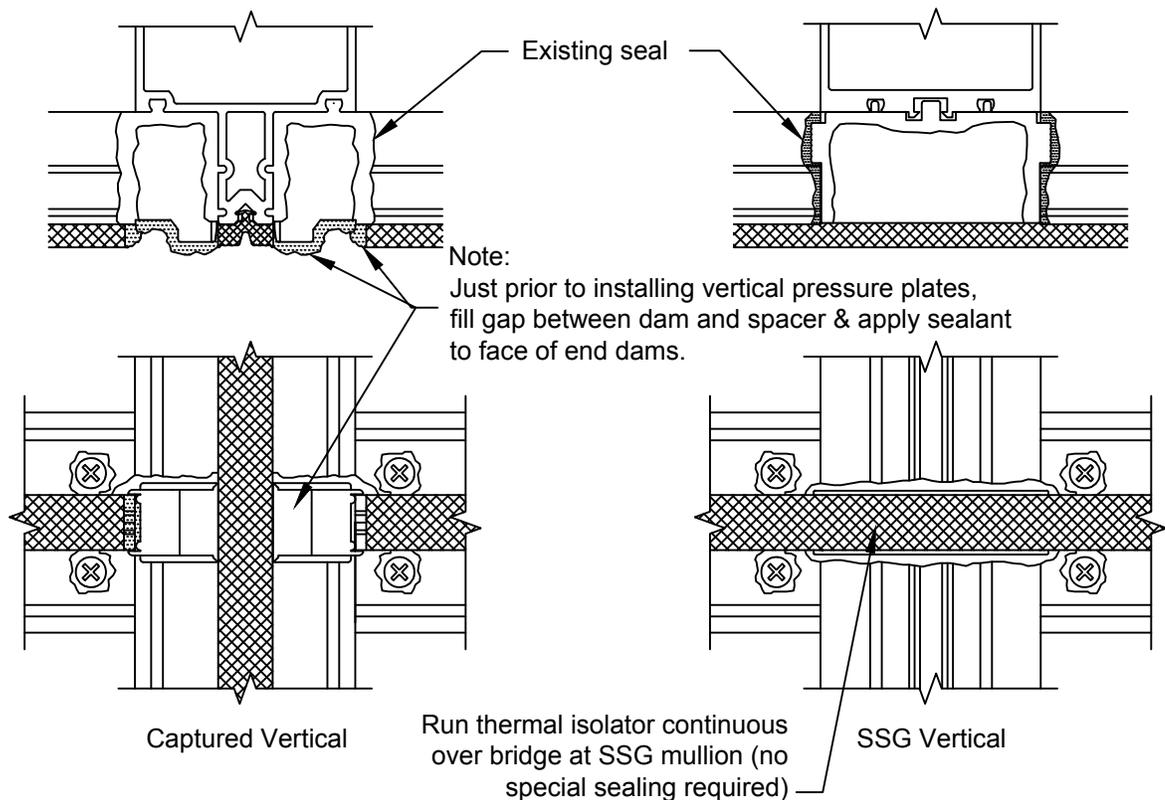

Figure 20
3.9 Prior to installing vertical pressure plates, apply sealant to the face of each horizontal zone plug. SEE FIGURE 20. Vertical pressure plates must be installed before the horizontal pressure plates are applied.